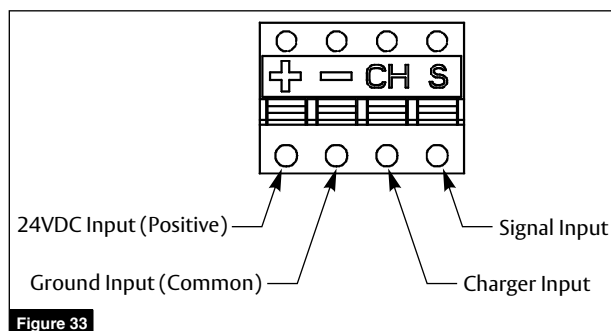

Figure 33
5. Wire connector as shown. (Figure 33)